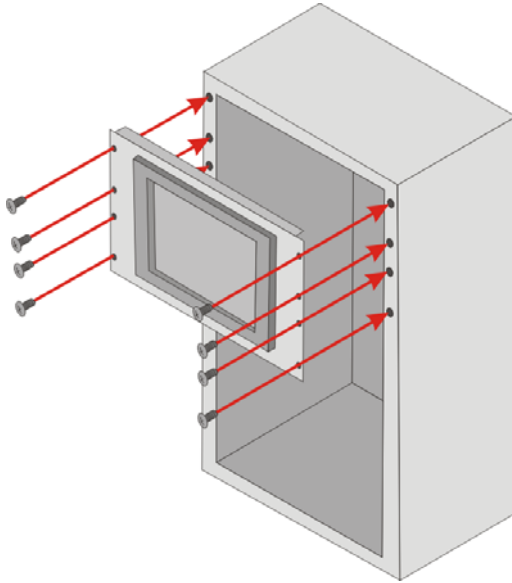

Figure 3-30: Install into a Rack/Cabinet
Step 5: Slide the PPC-FxxA-H81 with the attached rack/cabinet bracket into a rack or cabinet (Figure 3-30).
Step 6: Once the flat panel PC with the attached rack/cabinet bracket has been properly inserted into the rack or cabinet, secure the front of the rack/cabinet bracket to the front of the rack or cabinet (**Figure 3-30**).